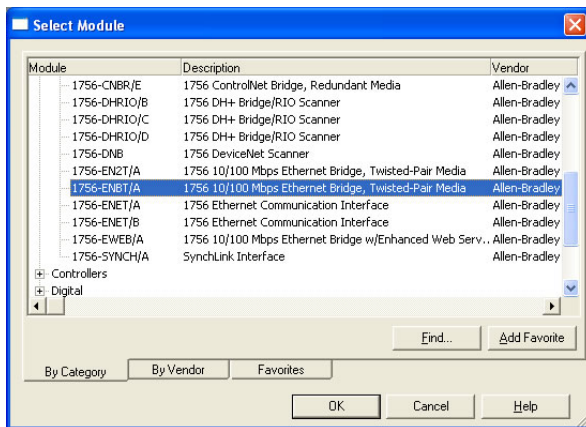

Figure 82: Adding a New 1756-ENBT/A Module
- 5) Under “Communications”, select “1756-ENBT/A”, and click OK. Refer to Figure 82.